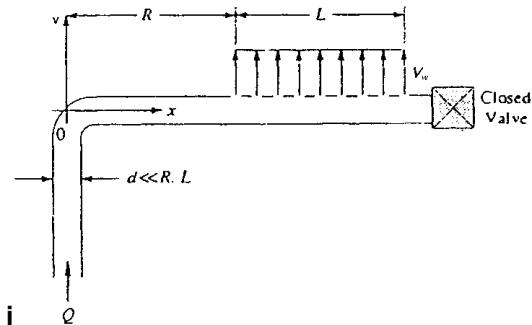

Fig. P3.125
**3.125** A liquid of density  $\rho$  flows through a  $90^\circ$  bend as in Fig. P3.125 and issues vertically from a uniformly porous section of length L. Neglecting weight, find a result for the support torque M required at point O.